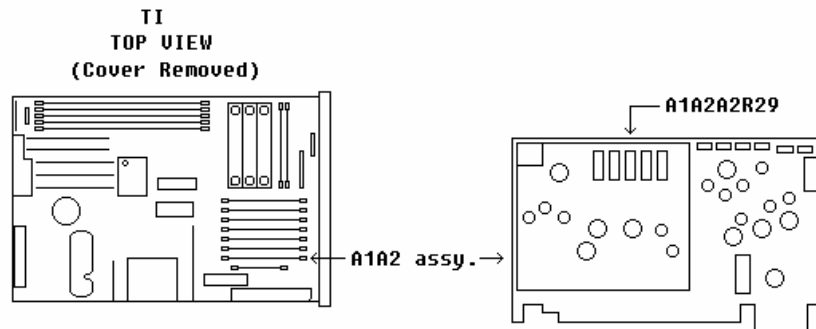
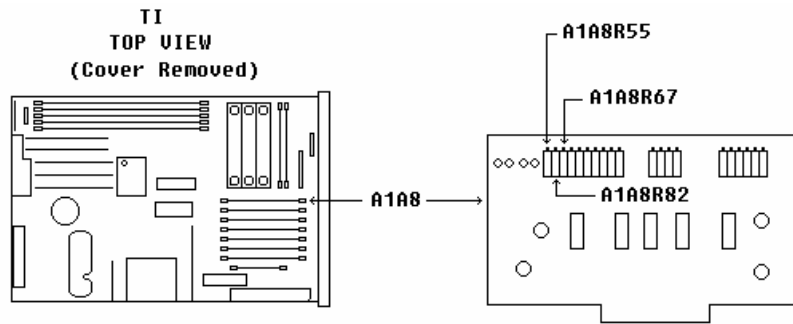

Figure 7. A1A2 board.
Figure 8. A1A8 board.
- (6) Press TI RCL 1.
- (7) Adjust A1A2A2R29 (fig. 7) for a measuring receiver indication of -3.0 dBm (R).
- (8) Using **TUNE KNOB**, tune the test instrument from 2 to 6.6 GHz. Record minimum and maximum measuring receiver indications and frequencies where they occur.
- (9) Adjust A1A8R55 (fig. 8) to reduce the difference between minimum/maximum power indications (R).
- (10) Using **TUNE KNOB**, tune the test instrument to 2 GHz.
- (11) Readjust A1A2A2R29 (fig. 7) for a measuring receiver indication of 3.0 dBm.
- (12) Tune the test instrument from 2 to 6.6 GHz. Verify that the output level stays within ± 1 dB of -3 dBm.
- (13) Repeat (8) through (12) above until level stays within 1 dB of -3 dBm or until no further improvement can be made.
- (14) Press TI **RCL 2**.
- (15) Using **TUNE KNOB**, tune the test instrument from 6.600002 to 12.99902 GHz. Record minimum and maximum measuring receiver indications and frequencies where they occur.
- (16) Adjust A1A8R82 (fig 8) to minimize difference between minimum and maximum power indications (R).
- (17) Press TI **SWEEP MODE OFF, FREQ INCR, 2, 0, 0**, and **MHz** keys.
- (18) Verify the measuring receiver indicates -3 dBm ± 0.2 dBm. Readjust A1A2A2R29 (fig. 7) as necessary for best compromise.
- (19) Using **TUNE KNOB**, tune the test instrument from 2 to 12.2 GHz. Verify that the difference between the minimum and maximum power indications are equal to or less than 3 dB.
- (20) Press TI **RCL** and **3** keys.
- (21) Using **TUNE KNOB**, tune the test instrument from 12.300003 to 17.59999901 GHz. Record minimum and maximum measuring receiver indications and frequencies where they occur.
(22) Adjust A1A8R67 (fig. 8) to minimize difference between minimum and maximum power indications (R).
(23) Press **TI SWEEP MODE OFF**, **FREQUENCY**, **2**, and **GHz** keys.
(24) Adjust A1A2A2R29 (fig. 7) for a measuring receiver indication of -3.0 dBm.